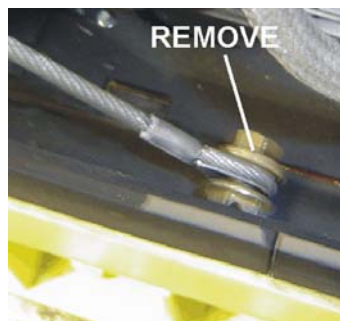

Figure 2. Hood Support Cable/Bolt
2. Remove the lower bolt from the hood support cable (Figure 2) and tilt hood backwards.